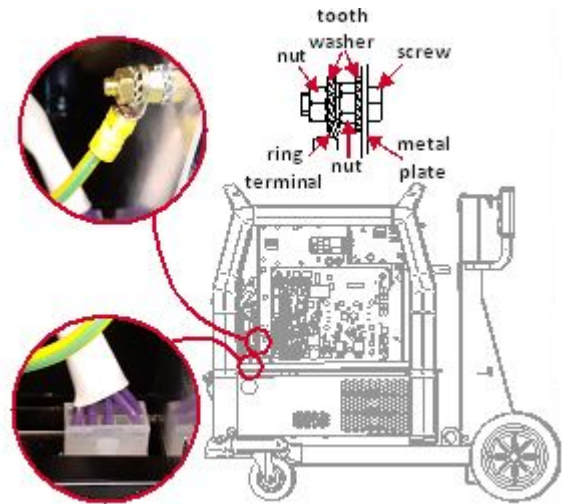

Figure 4
- Connect the 10-pin plug to the socket and screw the green – yellow protective wire to the grounding bolt – unscrew the M6 nut, remove the serrated washer, install the cable, put on the serrated washer and screw on the M6 nut.(Figure 4).